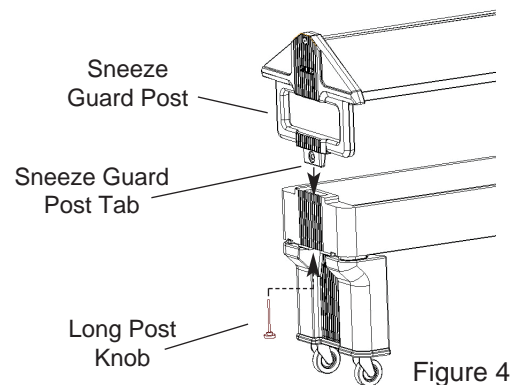

Figure 4
- Step 11: With assistance, flip assembled sneeze guard over and place Sneeze Guard Post tabs into basin slots (see Figure 4).
- Step 12: Insert Long Post Knob through underside of basin and into the Sneeze Guard Post. Tighten until snug. Do not over-tighten (see Figure 4). Repeat procedure for other side.